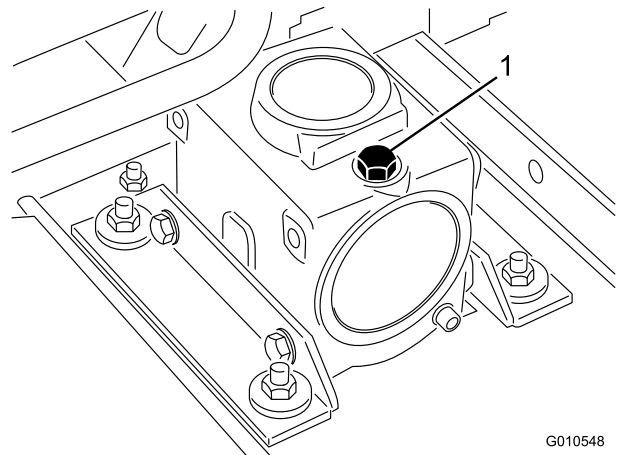

Figure 13
2. Remove the dipstick/fill plug from the top of the gear box (Figure 13) and ensure that the lubricant is between the marks on the dipstick. If the lubricant level is low, add enough lubricant until the level is between the marks.